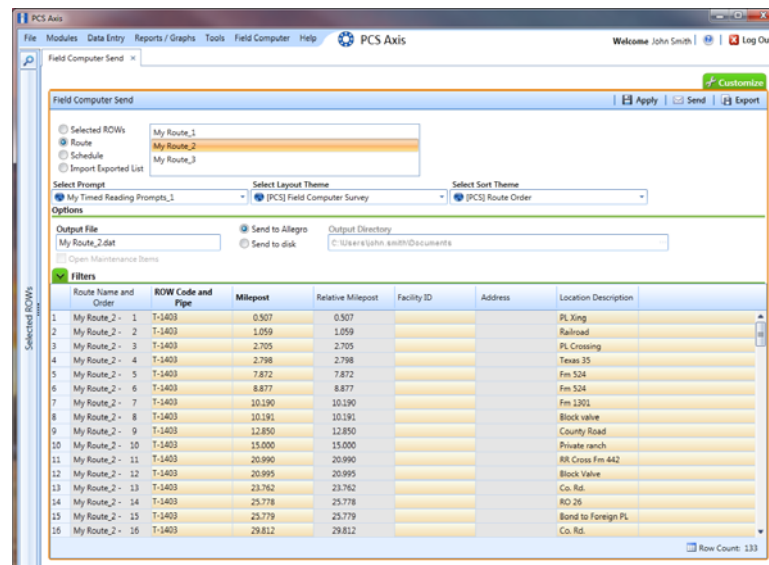

Figure 7-23. Field Computer Send
- 17 Click the down arrow in **Select Prompt** and select a theme with timed reading fields (Figure 7-23).